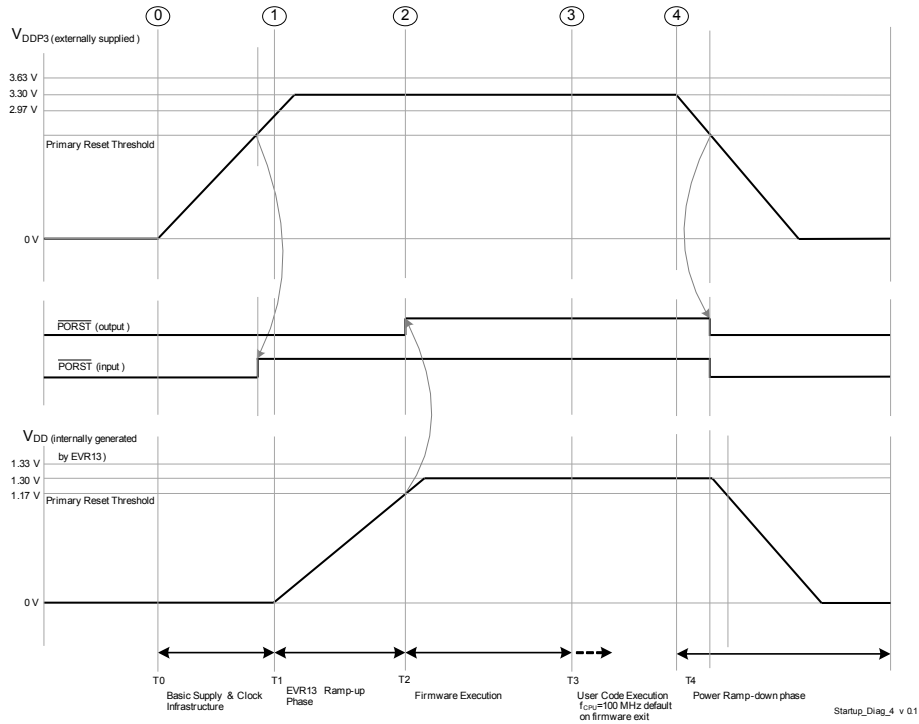

Figure 3-2 Single Supply mode - 3.3 V single supply
- The power sequence as shown in Figure 3-2 is enumerated below